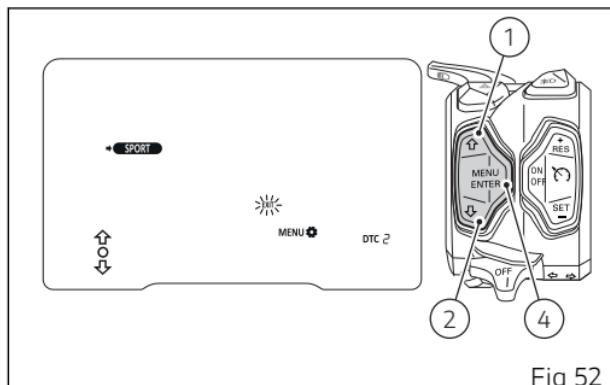

Fig 52
The instrument panel displays the new set level and "EXIT" flashing (Fig 52). Now press button (4) to go back to previous display mode.